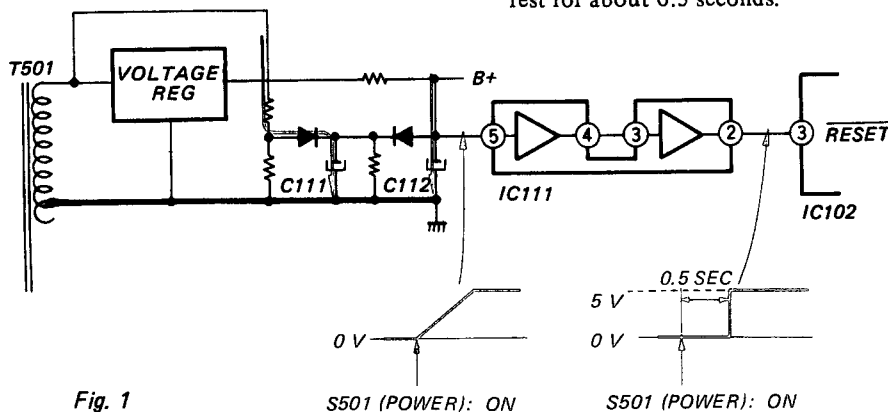

Fig. 1
**1-4-1. When the POWER Switch is turned on (see Fig. 1):**